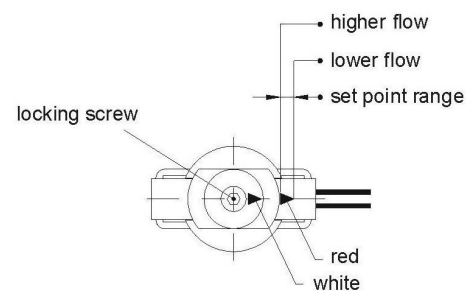
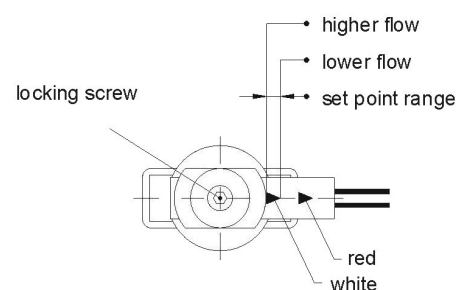

Fig. 18
Fig. 19
- ✎ Subsequently loosen the locking screw (2.5 hexagon socket screw for the brass and stainless steel version or recessed head screw for the plastic version) and position the switching unit until the red or white arrow are visible at the entry of the switching contact guide for a desired make contact (Fig. 18) or break contact (Fig. 19) respectively.